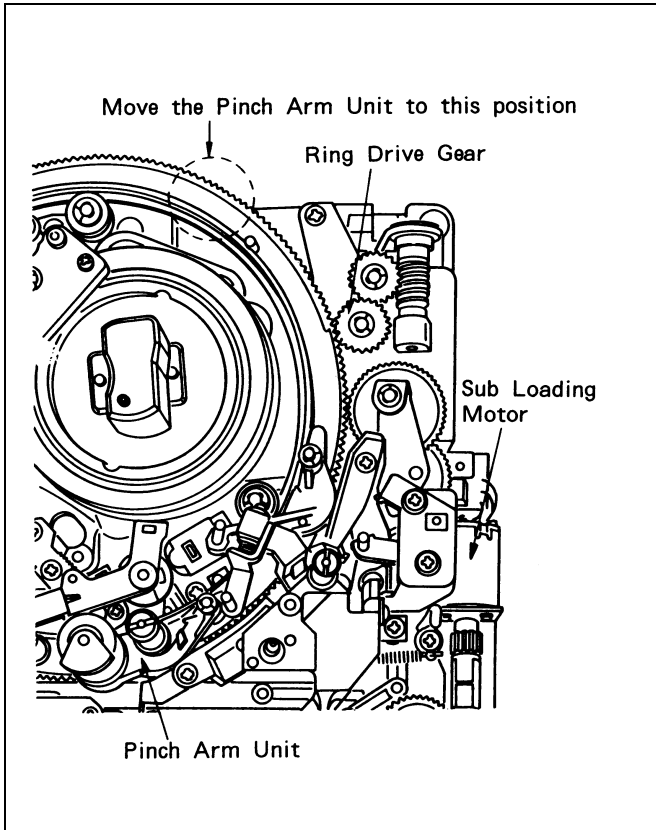

Figure 7-6-1 Replacement of Pinch Arm Unit
1. Turn Sub Loading Motor so that Loading Arm Unit is in loading complete position and keep pushing Ring Drive Gear, then turn loading Ring to the position as shown in Figure 7-6-1.